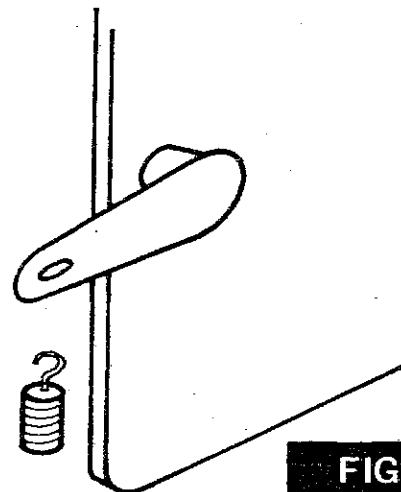

FIG. 28
2. Place the metal hook of the wooden handle through the hole in the end of the cast iron door handle. (Fig. 28).